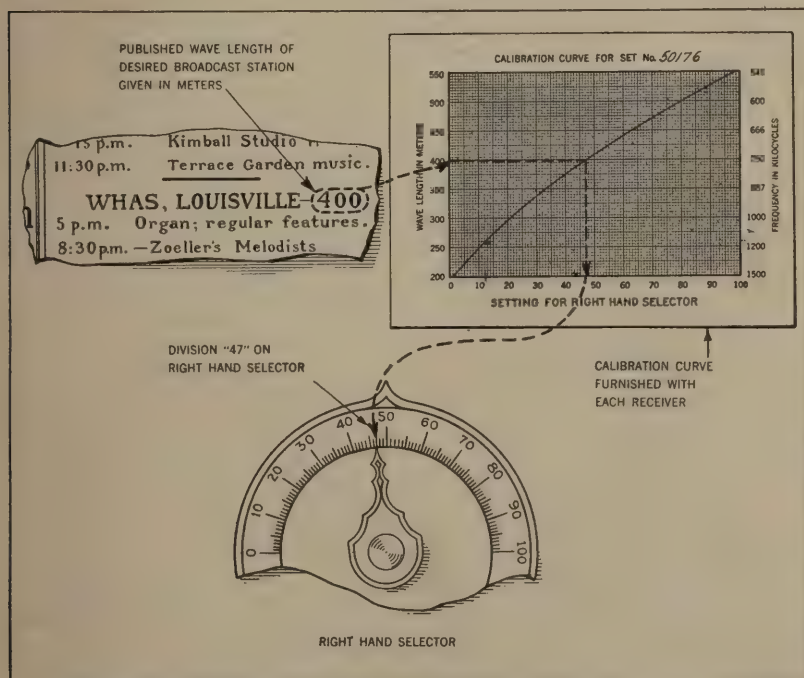

Fig. 20—Selecting Stations by the Calibration Curve Method
Eighth—Taking the wave length of a local or powerful station that is broadcasting, locate its tuning position on the right hand STATION SELECTOR by means of the calibration chart, Fig. 20. (This chart is located on the inside and at the back of the No. 601-B receiver cabinet and inside the upper right hand door of the No. 602-B receiver cabinet). Set the right hand STATION SELECTOR at this reading and then move the left hand STATION SELECTOR forward and backward about ten divisions above and below the setting of the other selector, until the station is located, slightly re-adjusting both selectors to get maximum response of signal for each selector. This maximum response can best be obtained by **keeping the control marked "VOLUME" turned down while "sharpening" the tuning**. Now, the "VOLUME" control can be turned up to obtain the desired strength of signal in the loud speaker. In no case should this VOLUME control be turned up to a point where the detector or 2nd audio tube is overloaded, as bad distortion results.
- (a) “Selecting Stations by the Calibration Curve Method” (Fig. 20).
An accurate calibration curve, Fig. 20, is furnished with each of the Nos. 601-B and 602-B radio receivers for this method of station selecting. Referring to this calibration chart, follow the particular horizontal line that corresponds to the published (or known) wave length (in meters) of the desired station, to the point of intersection with the red diagonal line.
At this point follow down on the vertical line to the numbering on the bottom of the chart, which gives the correct setting for the pointer of the right hand STATION SELECTOR. This is illustrated in Fig. 20, which shows how to select station WHAS (Louisville, Ky.) which has a wave length of 400 meters, the setting of the right hand STATION SELECTOR in this case being found to be 47.
It will be noticed that the right hand side of the "Calibration Curve" diagram is marked "Frequency in Kilocycles," this being another and more scientific way of designating the radio frequency of a broadcast station. The frequency of a station tuned-in, can be found by using the above method, but instead of following the horizontal line to the left as given in the "third" paragraph, follow this horizontal line to the right and read the "Kilocycles." In the case cited above, a right hand STATION SELECTOR reading of "80" would give a frequency of 600 kilocycles for the calibration curve shown in Fig. 20. Thus, a Stromberg-Carlson No. 601-B or No. 602-B Radio Receiver is a fairly accurate "wave meter" when used as above described.